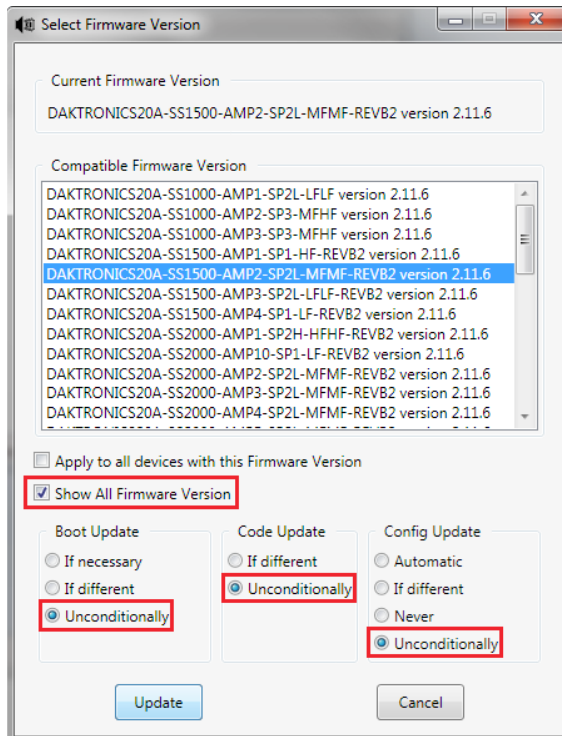

Figure 18: Select Firmware Version
7. In the *Select Firmware Version* window (Figure 18), click on the correct firmware file to send to the amplifier. Note that you may have to first check the **Show All Firmware Version** box.